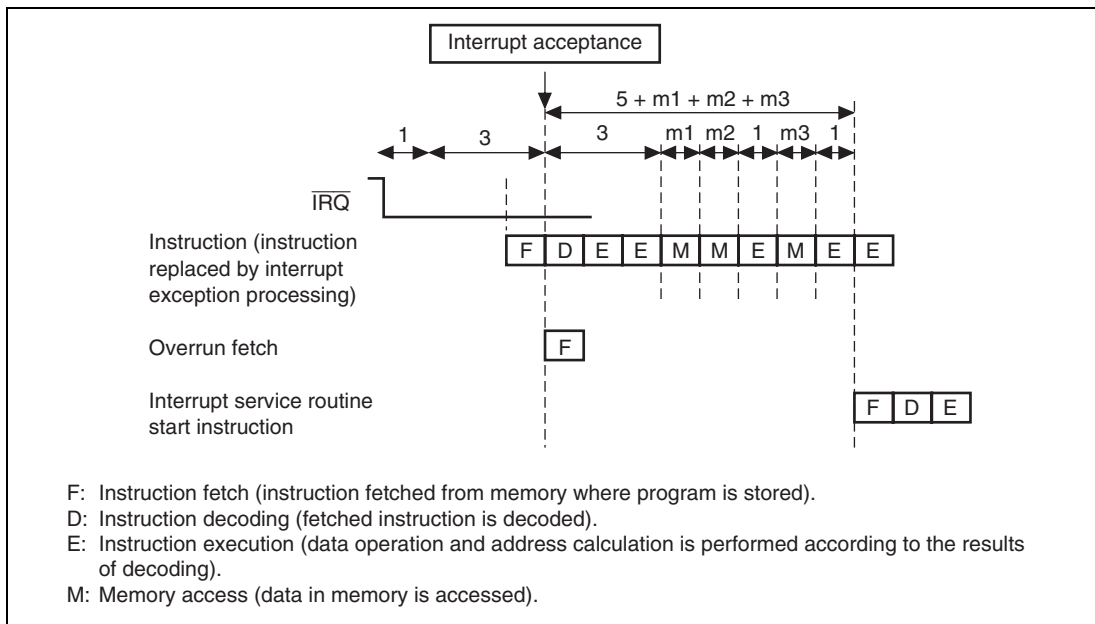

Figure 6.5 Example of Pipeline Operation when IRQ Interrupt Is Accepted
3. The interrupt controller compares the priority level of the selected interrupt request with the interrupt mask bits (I3 to I0) in the CPU's status register (SR). If the request priority level is equal to or less than the level set in I3 to I0, the request is ignored. If the request priority level is higher than the level in bits I3 to I0, the interrupt controller accepts the interrupt and sends an interrupt request signal to the CPU.
5. The CPU detects the interrupt request sent from the interrupt controller when CPU decodes the instruction to be executed. Instead of executing the decoded instruction, the CPU starts interrupt exception processing (figure 6.5).
7. The priority level of the accepted interrupt is copied to the interrupt mask level bits (I3 to I0) in the status register (SR).
8. When the accepted interrupt is sensed by level or is from an on-chip peripheral module, a high level is output from the $\overline{\text{IRQOUT}}$ pin. When the accepted interrupt is sensed by edge, a high level is output from the $\overline{\text{IRQOUT}}$ pin at the moment when the CPU starts interrupt exception processing instead of instruction execution as noted in (5) above. However, if the interrupt controller accepts an interrupt with a higher priority than the interrupt just to be accepting, the $\overline{\text{IRQOUT}}$ pin holds low level.
Table 6.3 lists the interrupt response time, which is the time from the occurrence of an interrupt request until the interrupt exception processing starts and fetching of the first instruction of the interrupt service routine begins. Figure 6.5 shows an example of the pipeline operation when an IRQ interrupt is accepted.